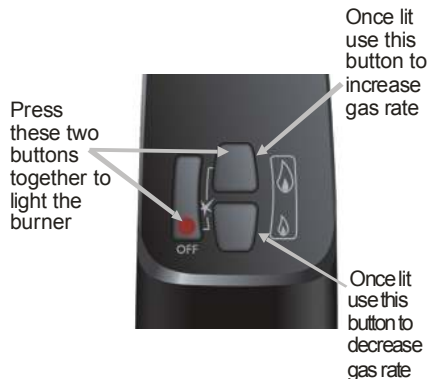

Figure 7
2. Simultaneously press and hold the ● (red circle) and 🔥 (large flame) buttons until a short acoustic signal confirms the start sequence has begun, then release the buttons (see **Figure 7**).
5. To adjust the gas rate to desired setting press the 🔥 (large flame) to increase the flame height or 🔥 (small flame) to decrease the flame height on the handset (see **Figure 7**).